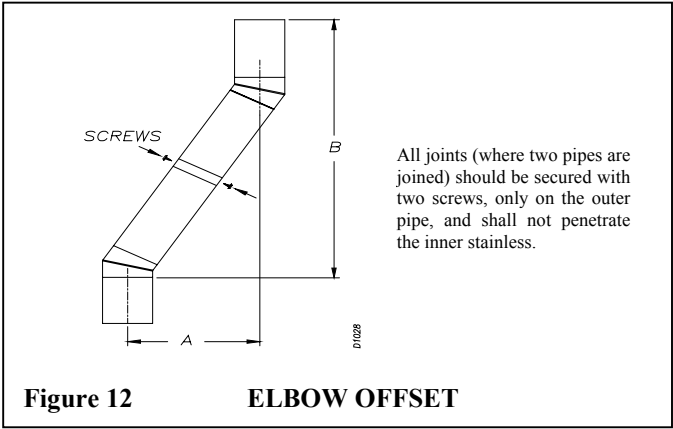

Figure 12 ELBOW OFFSET
Continue to assemble chimney sections as outlined above, making sure that both the inner and outer pipe sections are locked together. When installing double wall “snap lock” chimney together, it is important to assure the joint between the chimney sections is locked. Check by pulling chimney upward after locking. The chimney will not come apart if properly locked. It is not necessary to add screws to keep the chimney together (exception – see page 6 figure 12).
1. To achieve desired offset, you may install combinations of 12”, 18”, 24”, 36” and 48” length of double wall pipe (SEE SINGLE OFFSET CHART AND FIGURE 12).
- Chimney weight above offset rests on return elbow. Straps must be securely nailed to rafters or joists (see figure 12, details a & b).